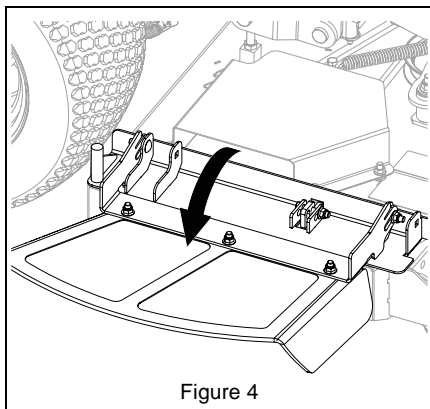

Figure 4
4. Place the discharge chute in the operating position. See Figure 4.